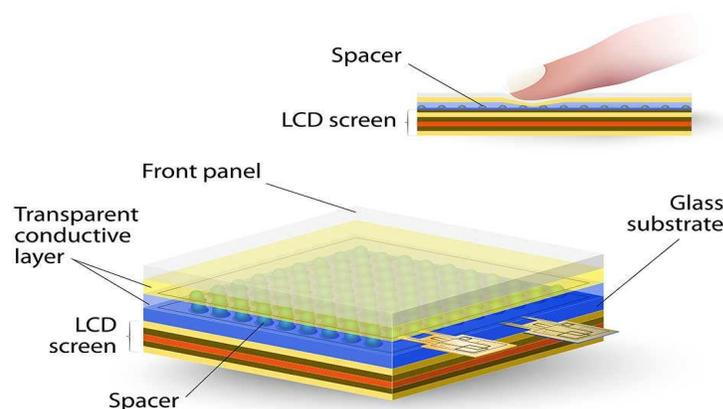

Fig. 4 A simple touchscreen with resistive sensors (courtesy of WELLPCB).
- **Touch Sensors:** A resistive touch sensor is one of the simplest forms of a touch sensor (unlike the capacitive versions found in phones, which can detect multiple finger movements at once and have faster response times). Resistive touch sensors involve two sets of conductors just barely separated by a spacer as shown in Fig. 4. By applying a small amount of pressure to the top conductor, the circuit is completed and a change in resistance is registered (so it behaves just like a switch).